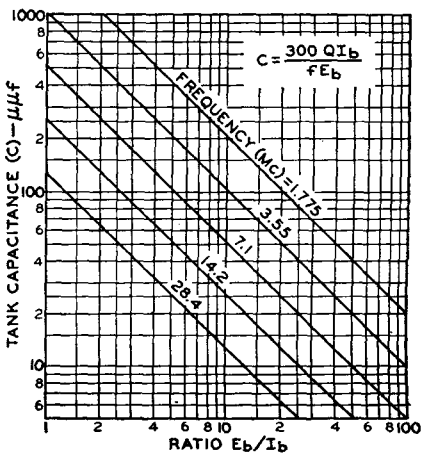

Fig. 35
Fig. 35 shows  $C$  as a function of the ratio  $E_b/I_b$  for a  $Q$  value of 12. The curves in Fig. 35 can be used to determine values of tank-circuit capacitance suitable for use in equipment operating in the amateur bands. Values of  $C$  obtained from this chart or calculated by the use of Equation (4) apply only for single-ended tank circuits which are not split for neutralization or other purposes, such as that shown in Fig. 36 (a). These values represent the total capacitance required for resonance at the corresponding frequencies, and include tube and stray circuit capacitance. Values slightly higher than those indicated can generally be used without appreciable reduction of power output.
When a split tank circuit is employed for a single-ended stage, as shown in Fig. 36 (b), the total tank capacitance should be one-fourth that indicated by Fig. 35 or Equation (4). The corresponding tank inductance, therefore, is 4 times
that required for a tank circuit which is not split. If the tank tuning capacitor is a split-stator type, such as that shown in Fig. 36 (c), each section should have one-half the capacitance indicated by Fig. 35 or Equation (4).
A push-pull stage operating at the same dc plate voltage and total dc plate current as a single-ended stage also requires one-fourth the tank-circuit capacitance indicated in Fig. 35 or Equation (4), or if the tuning capacitor is a split-stator type, each section should have one-half the capacitance indicated. A push-pull stage operated at the same plate voltage but drawing twice as much plate current as a single-ended stage requires one-half the tank-circuit capacitance indicated. In this case, each section of a split-stator tank capacitor should have the capacitance indicated in Fig. 35 and in Equation (4).